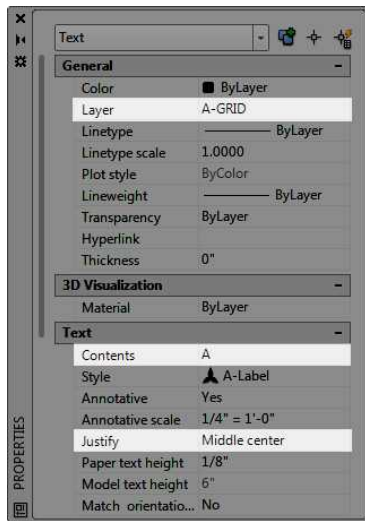

FIGURE 8.34: Modifying the KITCHEN text by using the Properties palette
- a. Under General, change Layer to A-GRID (see Figure 8.34).